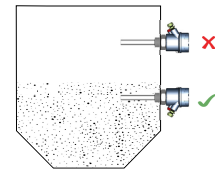

Figure 8: Cable Gland Arrangement
- To prevent the ingress of moisture and water seepage in side mounting position, the cable entries should always point downwards as shown in Figure 8.